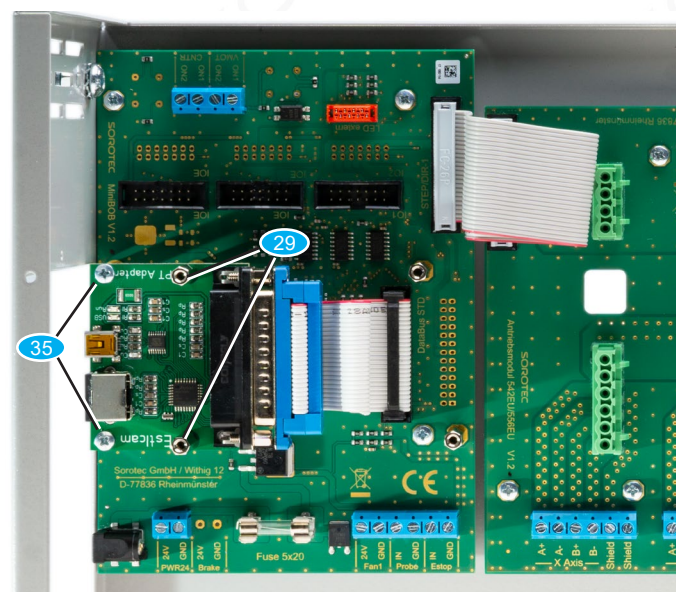

Fig. 12: Mounted adapter module, here Estlcam
- Mount the adapter module on the C3 Bob with cylinder head screws **35** and spacer nuts M3 x 20 **29**, as shown in Fig. 12.